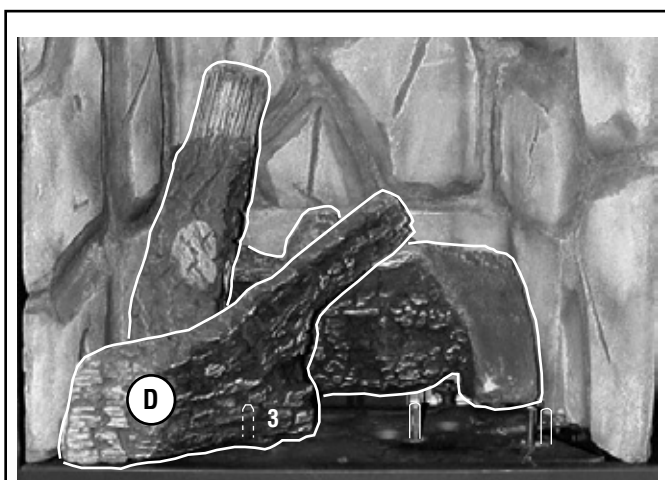

Figure 46 - Install Left Front Log (D)
3. **Place the left front log (D) as shown in Figure 46.** Position the hole on the bottom of log D over pin# 3.